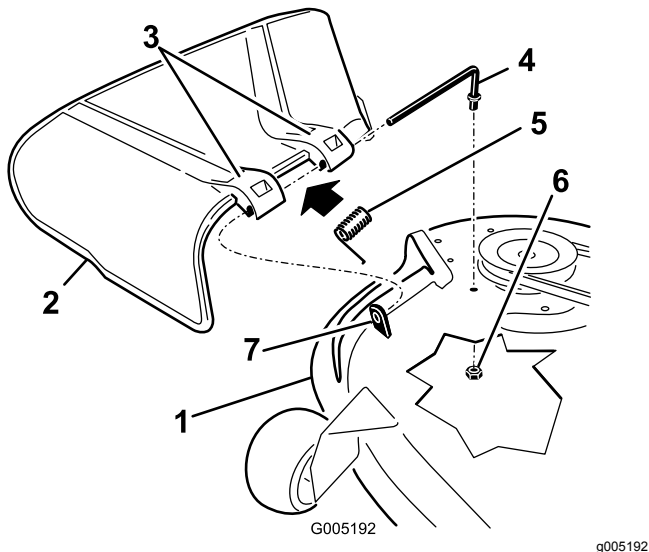

Figure 68
1. Remove the nut (3/8 inch) from the rod under the mower (Figure 68).
2. Slide the rod out of the short stand-off, spring, and grass deflector (Figure 68).
4. Replace the grass deflector (Figure 68).
7. Slide the rod through the second grass-deflector bracket (Figure 68).
9. Secure the rear end of the rod into the mower with a nut (3/8 inch) as shown in Figure 68.